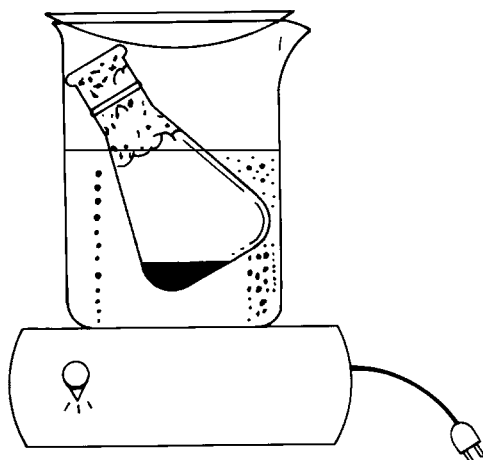

Figure 12.2
7. Immerse the flask containing the volatile unknown liquid in the boiling water so that most of the flask is beneath the hot water as shown in Figure 12.2. (You may need to weigh down the flask with a test tube clamp or a lead sinker.)
9. Record the temperature of the boiling water (5). Record the temperature of the vapor in the flask (6).
11. While the flask cools to room temperature, record the barometric pressure in the laboratory (7).
13. Weigh the flask, foil cover, wire, and condensed liquid. Record to the nearest 0.001 g on the Report Sheet (3). Determine the weight of the condensed liquid (4).
14. Remove the cover from the flask; save the aluminum foil and wire. Discard the unknown liquid that is in the flask in a container for waste organic liquids. Then rinse the flask with water and refill with water to the rim; dry the outside of the flask. Carefully and without spilling, weigh the flask with water, foil, and wire to the nearest 0.01 g (8).
15. Determine the weight of the water (9). Determine the temperature of the water in the flask (10). Look up the density of water at that temperature in the *Handbook of Chemistry and Physics*, and, using this value, calculate the volume of water in the flask (11). (You may check the volume in the flask by measuring the water with a graduated cylinder.)
16. Calculate the molar mass of the unknown (12). Identify the unknown (13).